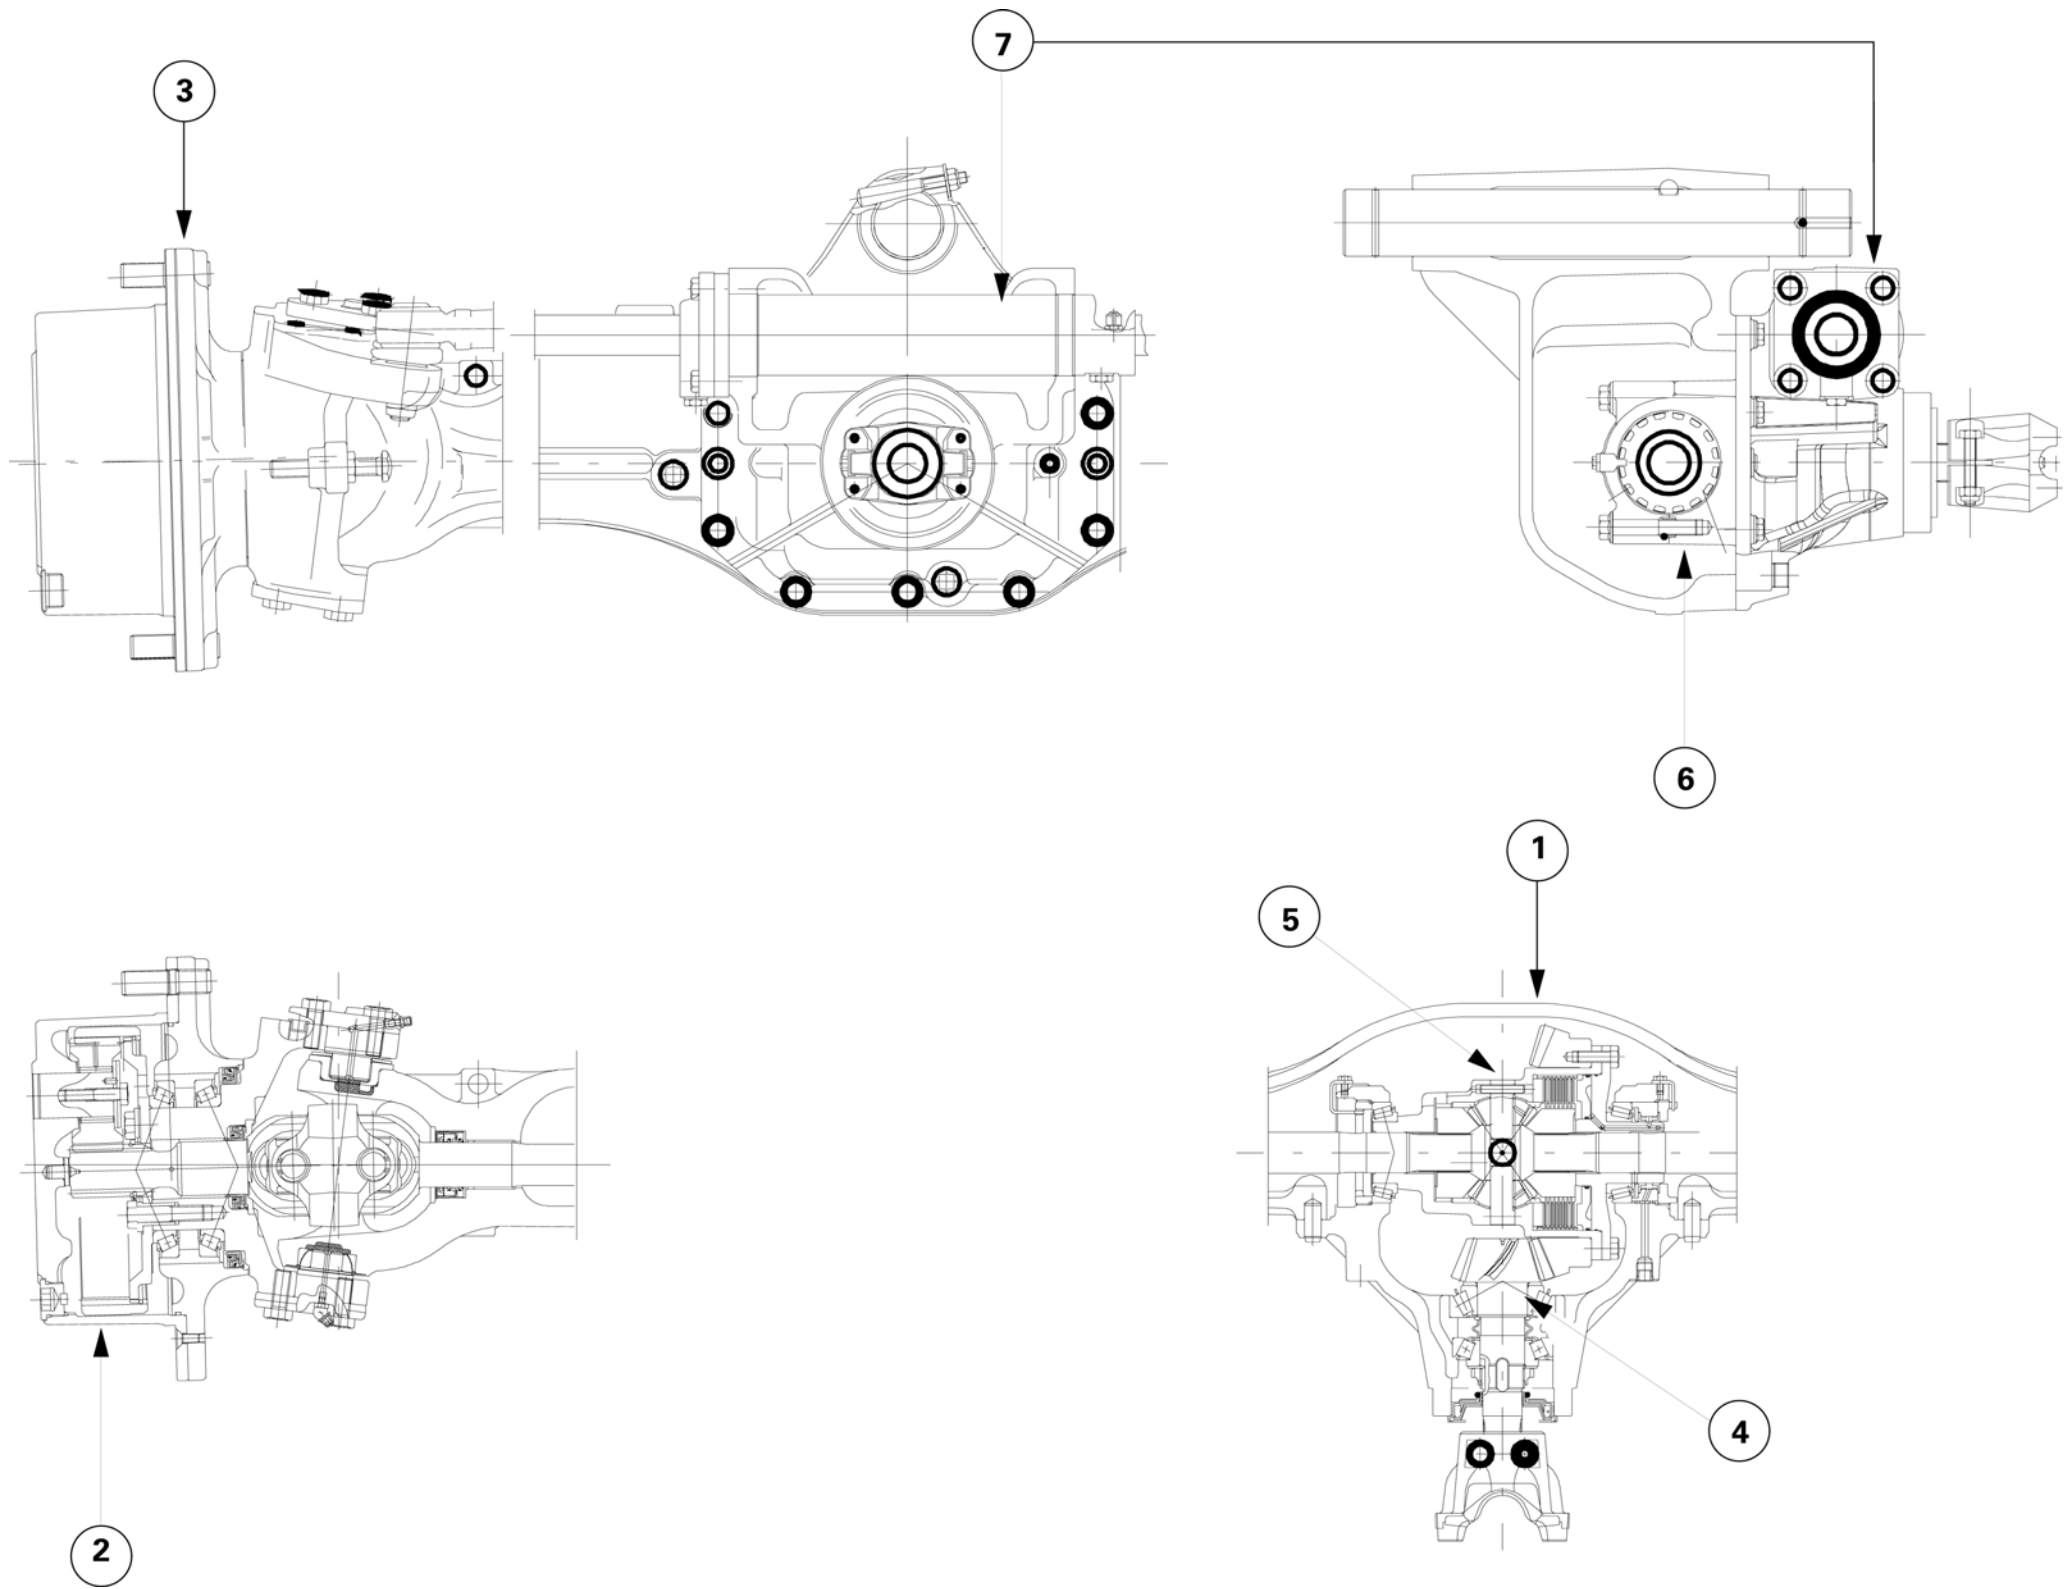
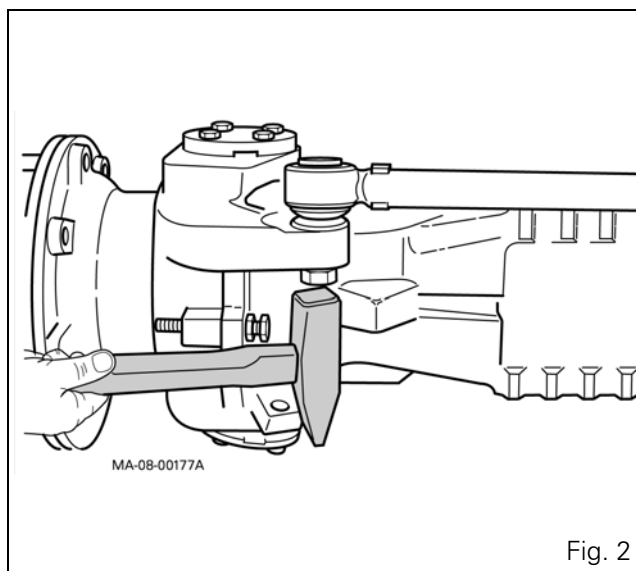

Fig. 1
Fig. 2
Parts list (Fig. 1 and Fig. 2)
6. Strike the nut with a hammer to extract the selector rail from the swivel housing (Fig. 2).